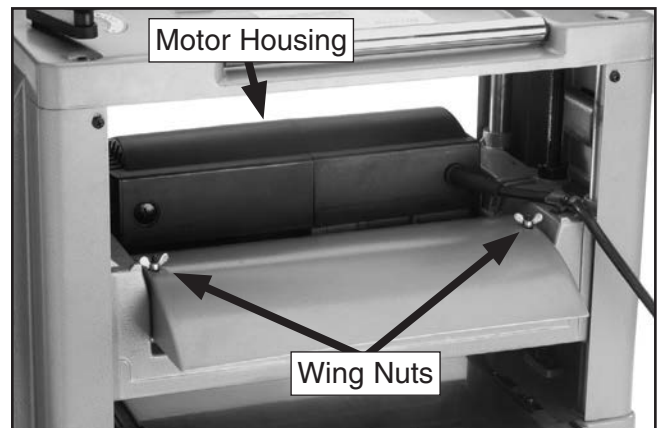

Figure 11. Chip deflector properly installed.
4. Remove the two wing nuts, position the chip deflector with the foam cushion against the motor housing, then re-install the wing nuts to secure the chip deflector, as shown in **Figure 11**. DO NOT over-tighten the wing nuts.